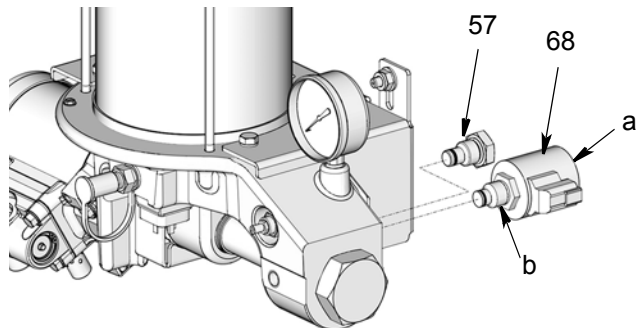

FIG. 5
3. Remove plug (57) from pump base (2) (FIG. 5).
4. Install valve cartridge (68) in pump base (FIG. 5). Torque coil nut (a) to 4 to 5 ft-lbs (5.42 to 6.78 N•m). Torque cartridge nut (b) to 16 to 20 ft-lbs (21.69 to 27.12 N•m).